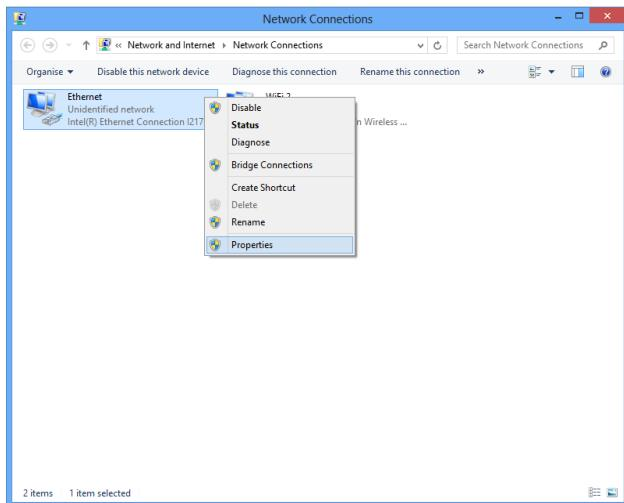

Fig. 4.6: Network Connections window
3. Right click on the Ethernet icon and select “Properties” (see Fig. 4.6)